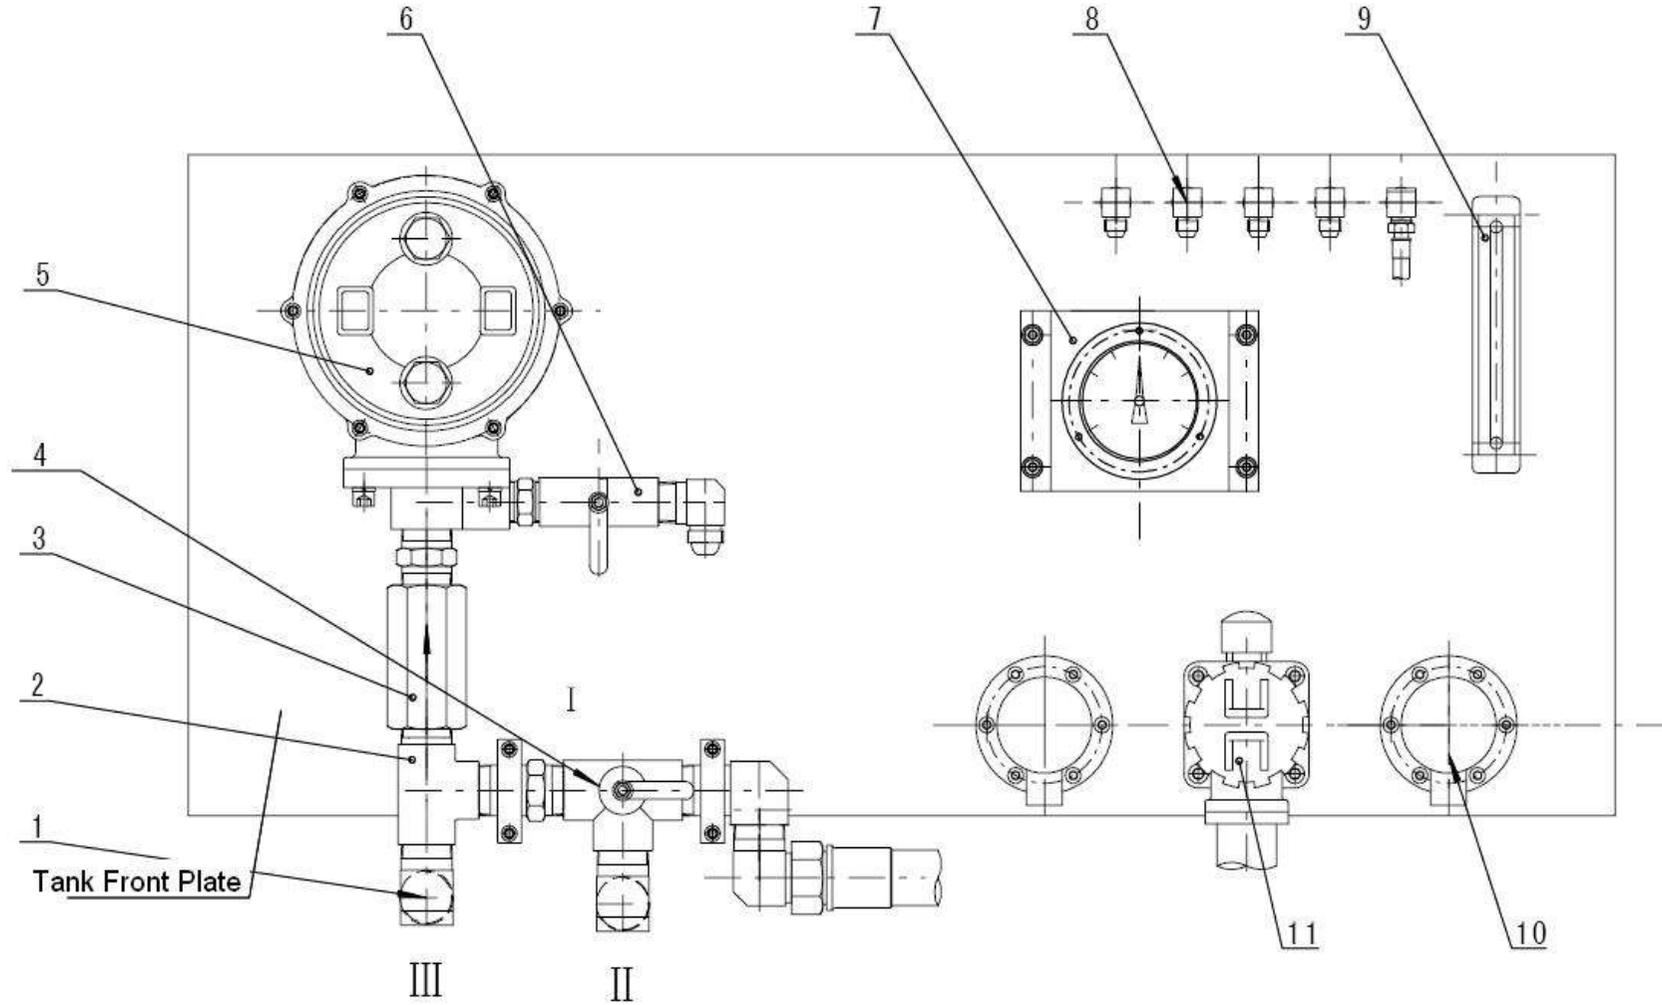
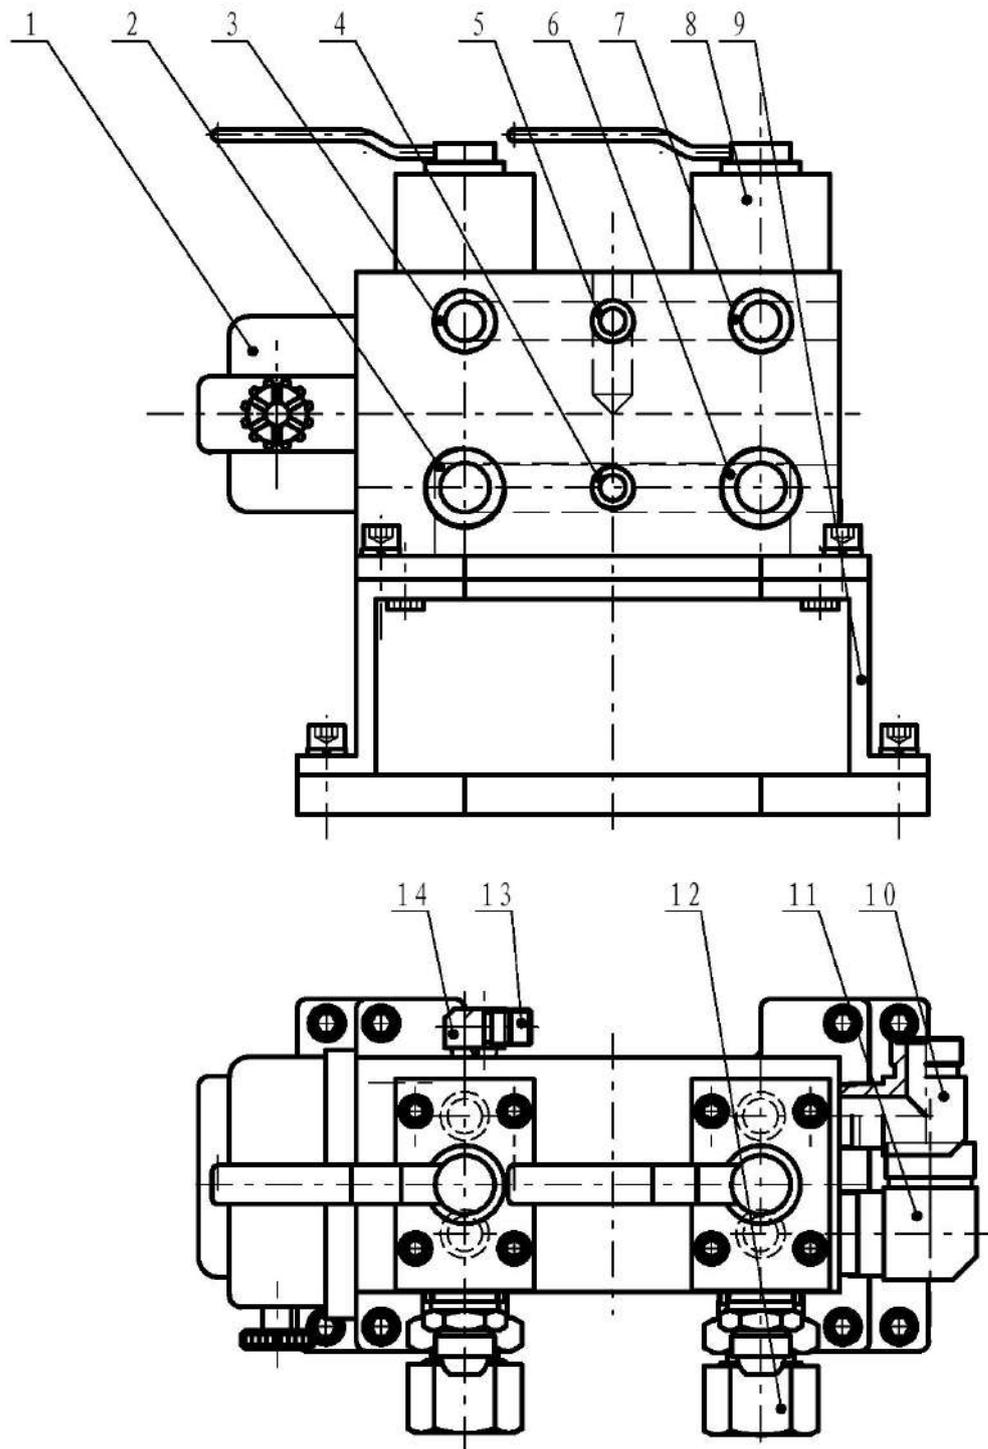
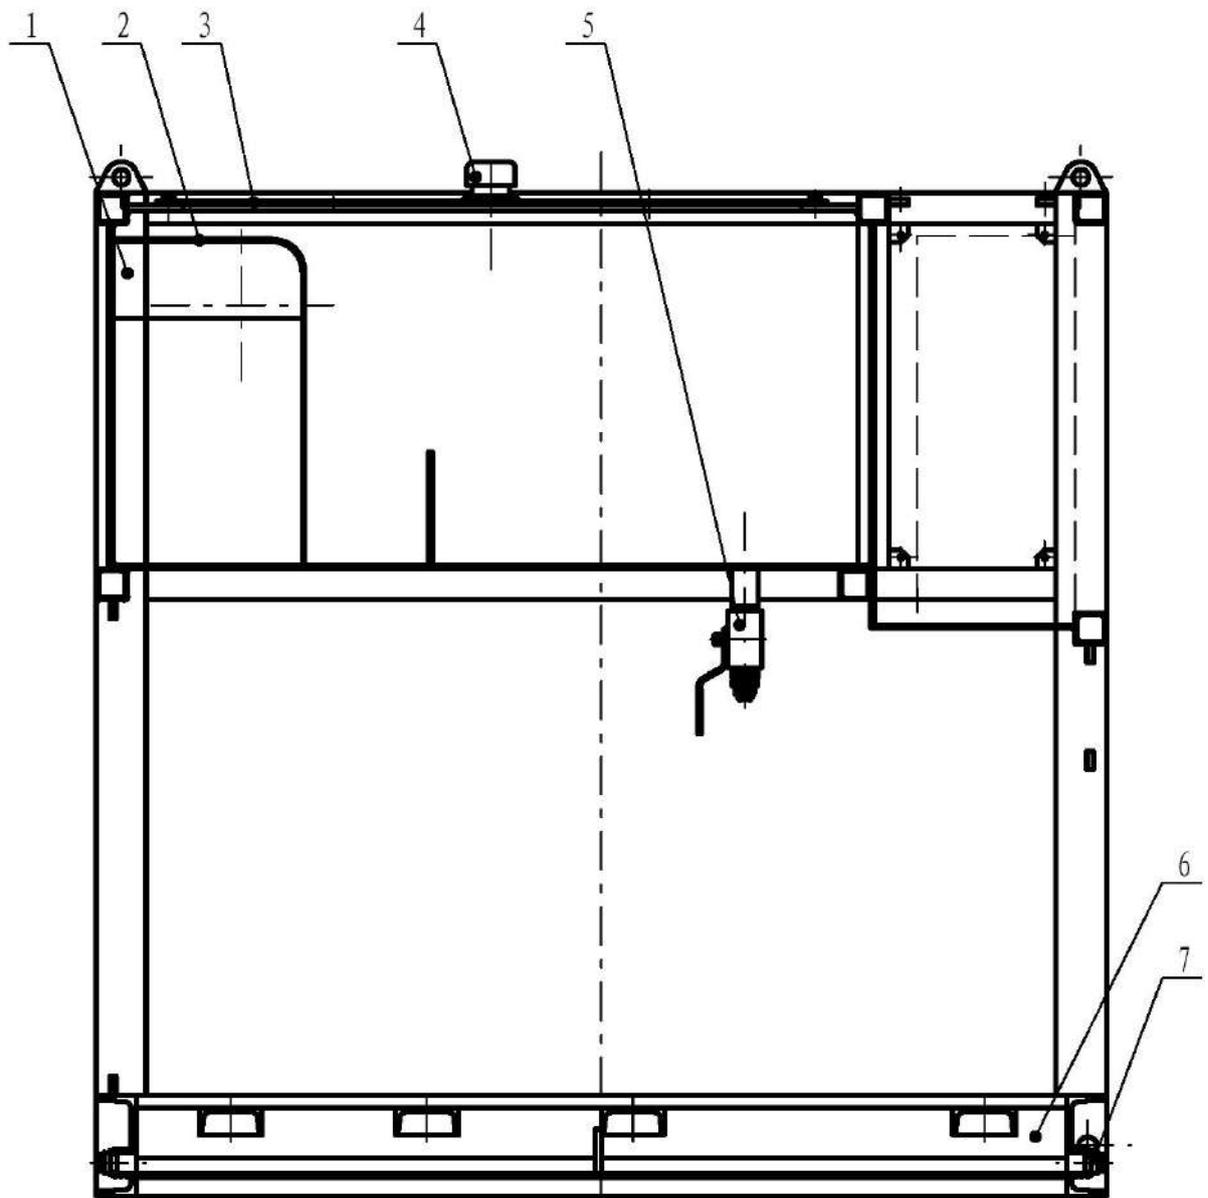

Fig.3 Outline of Control Panel
Fig.4 Oil In & Out Ports and Control Drawing
Fig.5 Oil Tank and Oil Sump
Oil control for radiator is achieved by a tee ball valve (refer to Fig.3). Right port of lower pressure tee ball valve (Fig.2-4) is to connect main oil return. By rotating the handle of ball valve can control the oil flow direction, and control hydraulic oil to go through radiator or not. Ball valve port I is for oil going directly back to oil tank. Port II is for oil going toward radiator, and passing through port III, and then back to oil tank. Lower pressure ball valve (Fig.3-6) is a switch valve to control the electric pump (Fig.7) from taking oil into tank. Electric oil pump is complete with a transparent suction hose with joint.
On front of motor-pump assembly is oil in & out ports (see Fig.4), involves two groups of oil-in and oil-return ports (Fig.4-2,3,6,7), with different connection types ---- pressure hose port I and II (Fig.4-3,7) M30*1.5 (ball head), and return hose port I and II (Fig.4-2,6) M42*2 (flared). Pressure port I and port II are controlled individually by two plate-type ball valves (Fig.4-8). Return ports are complete with screw plugs (Fig.4-12). There is a NPT1/2 pressure port and a NPT1/2 return port sealed with plugs as standby. Relief valve II (Fig.4-1) is to control max pressure of hydraulic line.
See Fig.5, there is a ball valve (Fig.5-5) at the bottom of oil tank for oil drainage. Oil sump (Fig. 5-6) as a whole body is at the bottom of the power unit, and oil can be drained by unscrewing the releasing plugs (Fig.5-7) on
4.2 Pay attention to the handle position of three low-pressure ball valves and two pressure ball valves. That is: on and off of two-way valves and flow direction of three-way valves. Two low-pressure ball valves (Fig.3: No.6 and Fig.5: No.5) should at “off” position. Low-pressure tee valve (Fig.3; No4) is at I position as Fig.3 indicated. One of the two plate-type ball valve (Fig.4: No.80 is at “on” position, the other one is at “off” position.
7.3 Fig.3 Outline of Control Panel
7.4 Fig.4 Oil In & Out Ports and Control Drawing
7.5 Fig.5 Outline of Oil Tank and Oil Sump